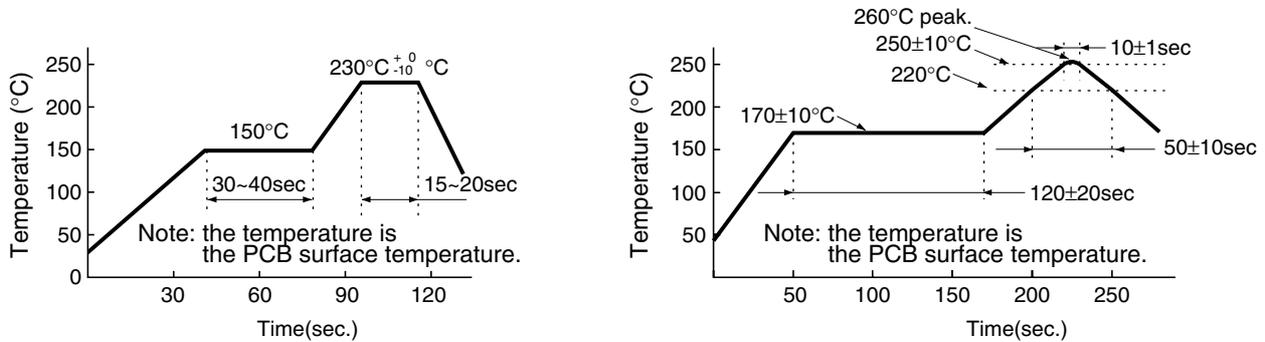

Figure.8
(1) An example of the infrared ray reflow temperature profile is shown as follows (see Figure 8).